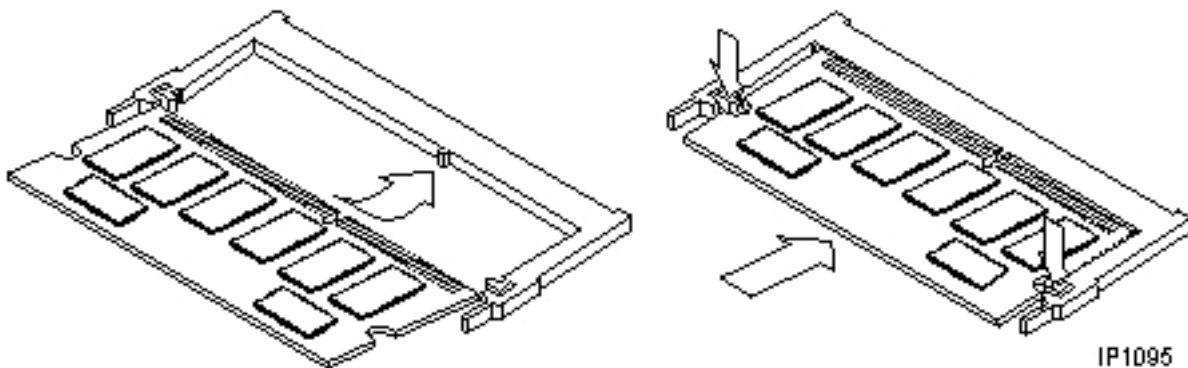

Figure 7.32: Memory Module Installation
- holding the module at approximately a 30-degree angle to the board, insert the bottom edge of the module into the slot's connector (see Figure 7.32).